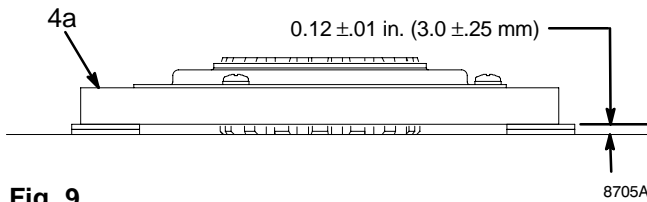

Fig. 9
2. Fig. 9. Lay two stacks of two dimes on smooth bench surface.